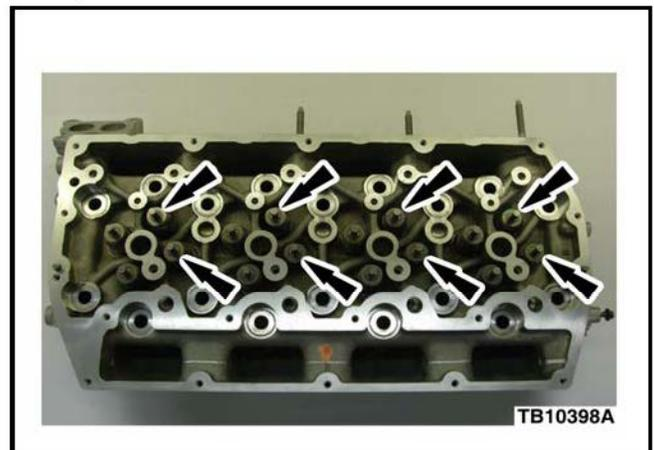

Figure 1 - Article 13-9-15
4. Replace all eight (8) exhaust valves and valve seals. Refer to WSM, Section 303-01. (Figure 1)